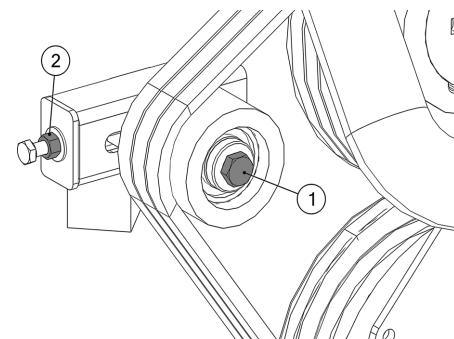

Figure 26 - Tensioner Pulley Assembly
2. Use a 19 mm spanner to loosen the bolt in the centre of the tensioner pulley until the pulley is able to slide with minimal wobble (Figure 26, Item 1).
3. Turn the nut on the end of the tensioner pulley slider until the correct belt tension is achieved (Figure 26, Item 2). (Refer to Section 5.11 "V-Belt Tensioning Procedure" on page 48.)